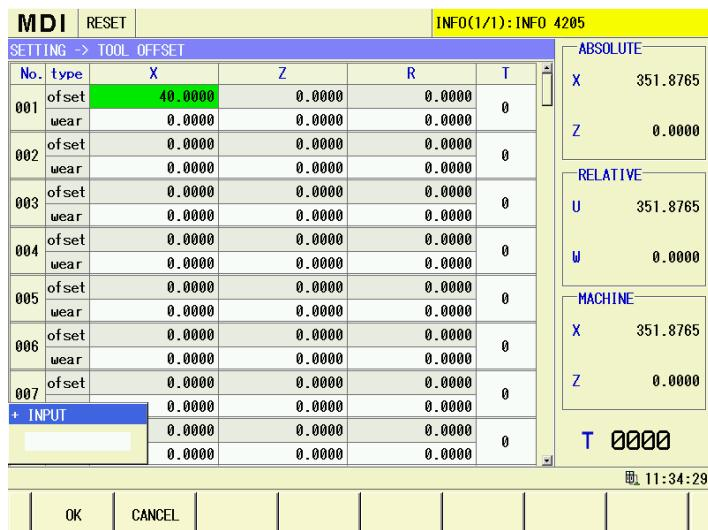

Fig.7-4
(1) On the setting page set, press software key to enter the tool offset administration page;
(2) Press the page up key and page down key to select the page, press the up/down direction keys , to select the tool offset number to be rewritten and press the left/right direction keys , to select the axis tool offset data and the wearing data to be rewritten;
(3) Press software key, add one input value to the current selected tool offset value or the wearing value, which is shown as Fig.7-4: